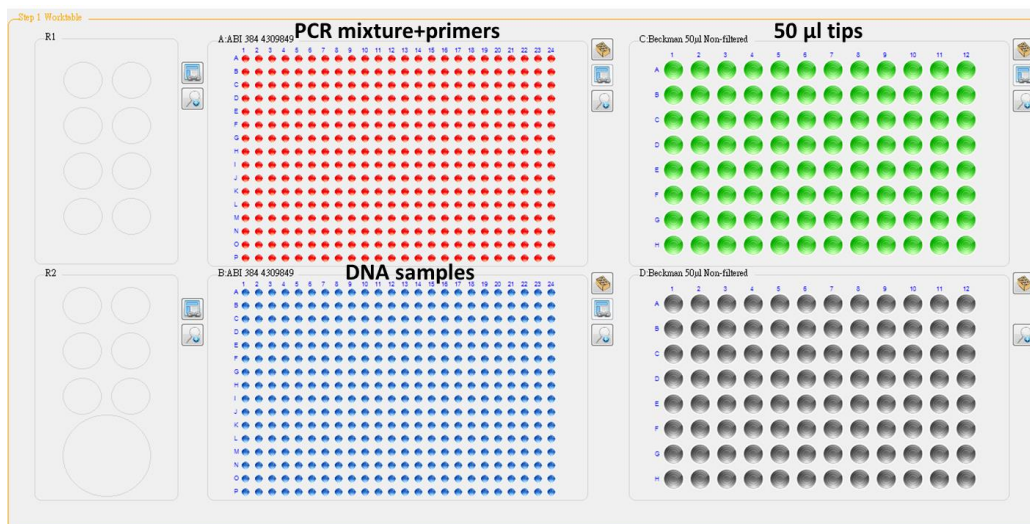

Fig. 2 Layout of the EzMate™ 401.
4. Place the 384-well PCR microplate with PCR mixture on area A and the 96-well PCR microplates with 96 DNA samples on area C of the EzMate™ 601s. Transfer the 1µl DNA samples to a 384-well PCR microplate on area A (Fig. 2).